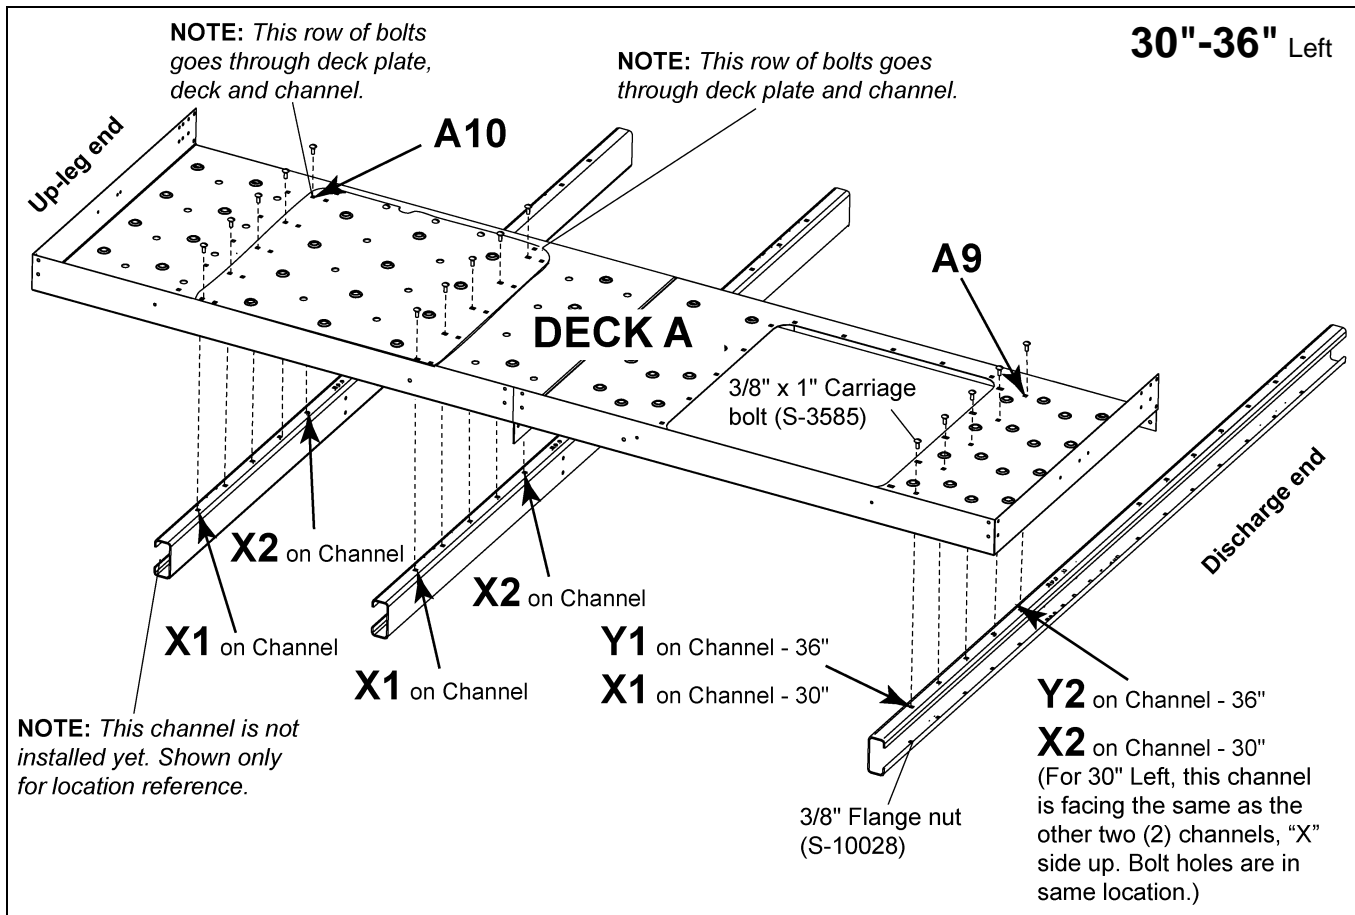

Figure 9H
3. On the **Discharge End**, use a punch as needed to line up. (See Figure 9H.)
- b. At the **hatch side** - Channel hole **X2** on the cross deck support channel to Deck A hole **A10** and deck plate cover. *(See Figure 9H on Page 83.)*